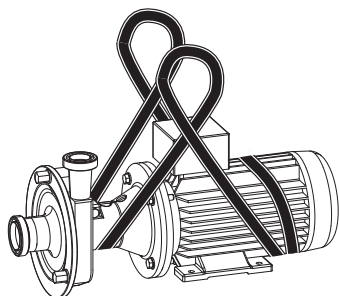

Fig. 13 Transport with round slings, FPM model shown here as an example
*See Fig. 13 "Transport with round slings, FPM model shown here as an example".*